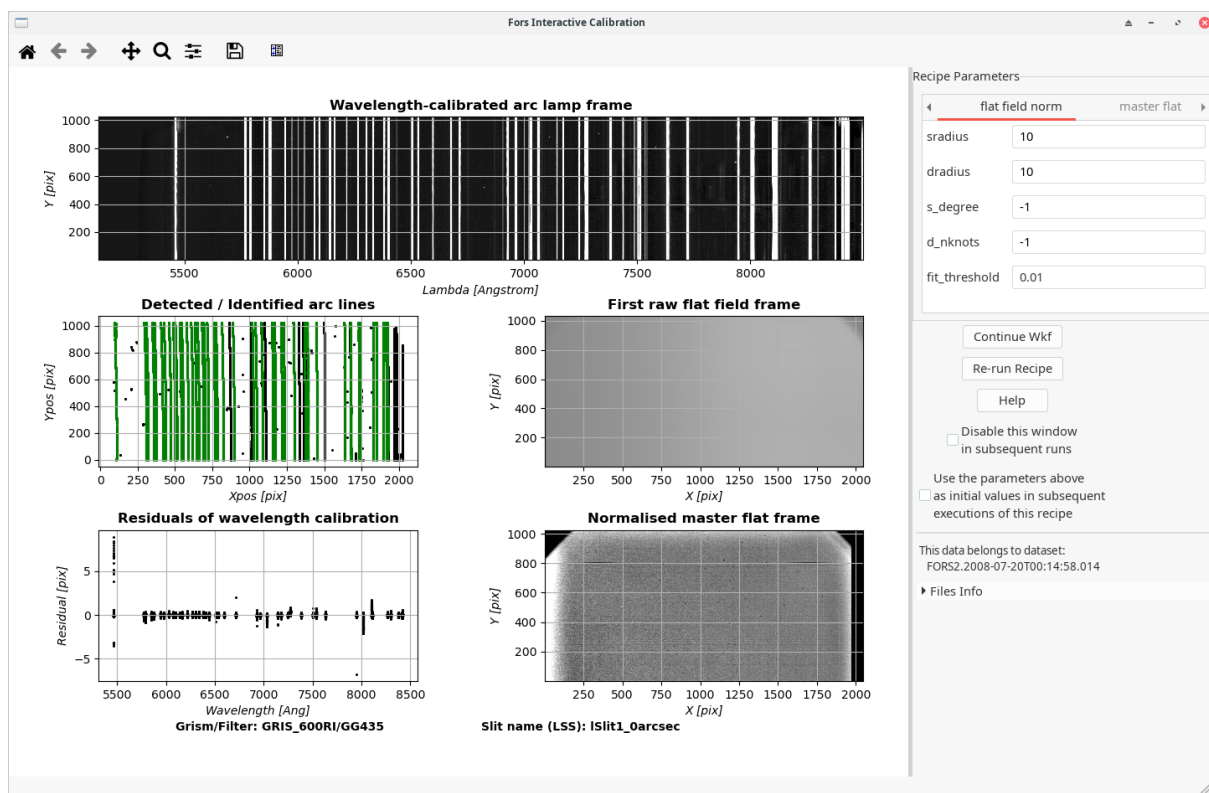

Figure 6.4: The interactive window of the `fors_calib` actor for the first demo DataSet. First the calibration data of the flux standard star are processed.
9. For each execution of the *ForsCalib* actor, an interactive window will appear which shows some plots to evaluate the quality of the slit tracing, the wavelength calibration and the master flat creation. Figure 6.4 shows the look of that window. The first and fifth data set will create an error message during that step. See p. 57 how to proceed.